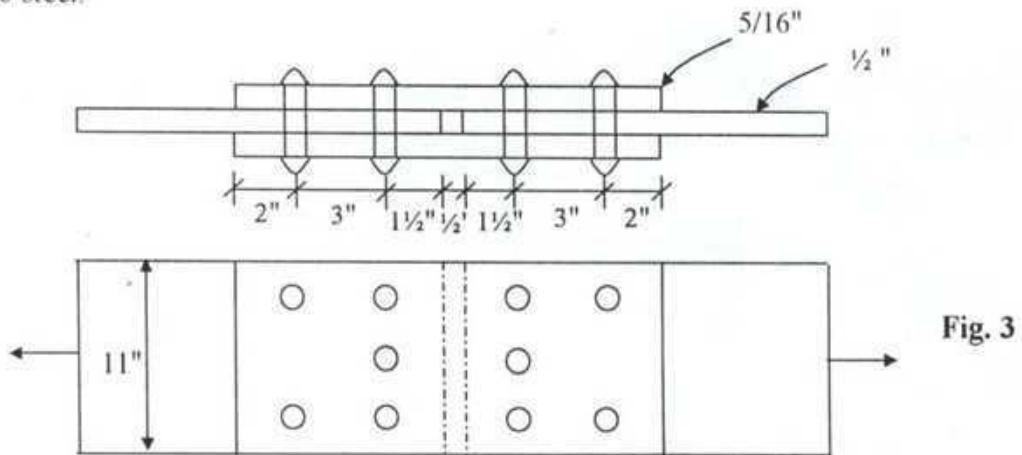

Fig. 3
2. (a) Using AISC/LRFD specification determine the block shear design strength of the splice shown in Fig 3. Fasteners are 7/8" A325 bolts in standard holes. All plates are of A36 steel. (14)